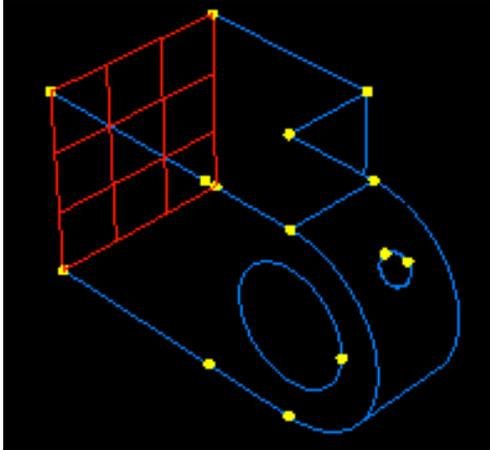

Figure C-43 Apply a boundary condition to the end of the hinge piece with the lubrication hole.
4. Select the gridded face shown in Figure C-43 as the region where the boundary condition will be applied.